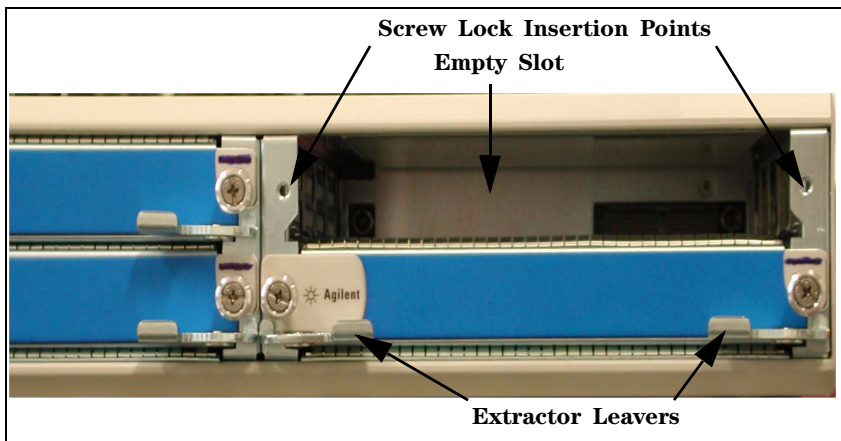

Figure 6 Chassis with an Empty Slot
- 1 Insert the I/O module inside the empty slot and push it to adjust it inside the empty slot (Figure 6).